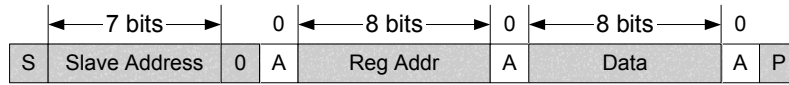
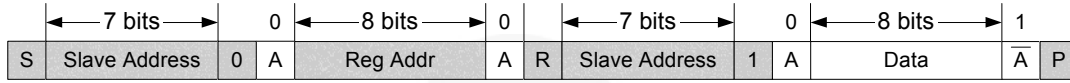

Figure 26. Write Transaction
Figure 27. Read Transaction
During a read from the FAN53523 (Figure 27), the master issues a “REPEATED START” after sending the register address and before resending the slave address. The “REPEATED START” is a 1-to-0 transition on SDA while SCL is HIGH, as shown in Figure 25.
**Table 7. Bit Definitions for Figure 26 and Figure 27**